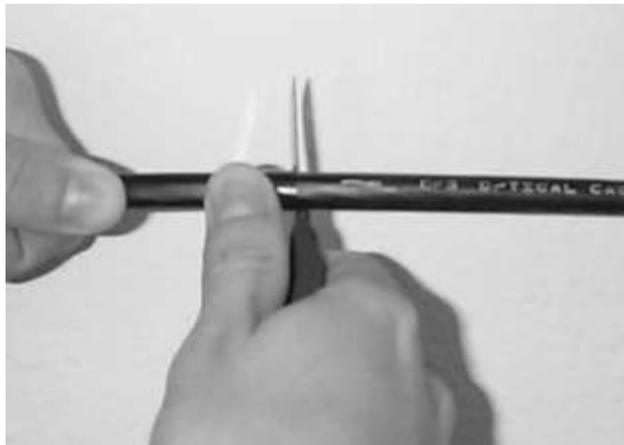

Figure 14 – Ring cut the cable jacket.
6.2 Use a cable sheath knife to score the cable jacket at one of the tape marks. Lightly score the cable jacket – do not cut completely through the jacket (Figure 14).